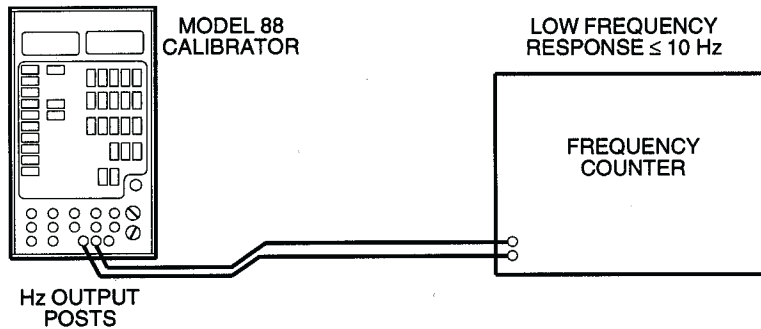

Figure 4-7: Hz Output Measurement.
- a) The Model X88 Calibrator and an accurate frequency counter should be connected as shown in Figure 4-7.